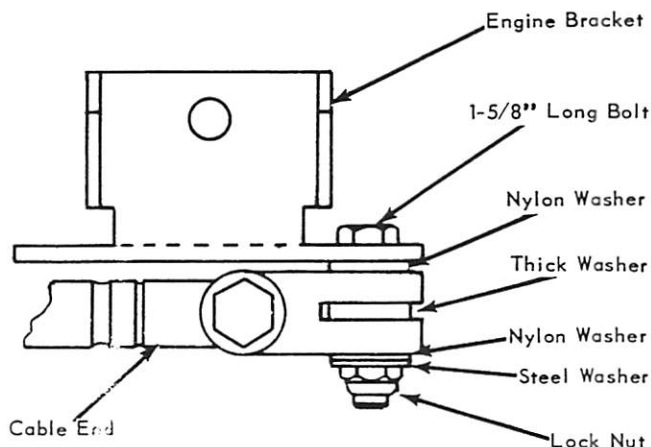

Figure 5. Engine Attachment - 33 HP
4. In boats with narrow engine wells, cable end may be attached to steering bracket by either method shown in Figures 5 and 6. Use bracket hole furthest from transom attachment.